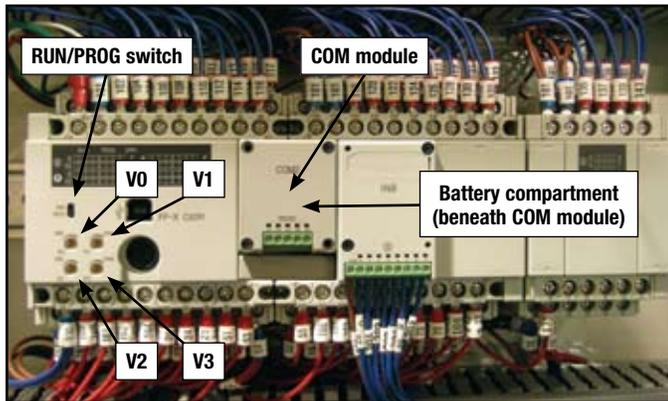
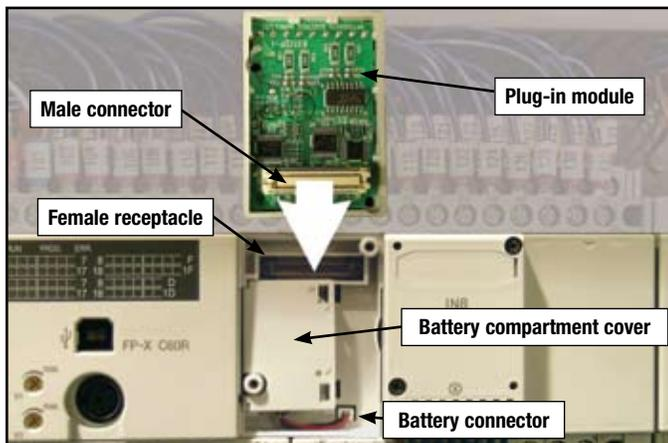
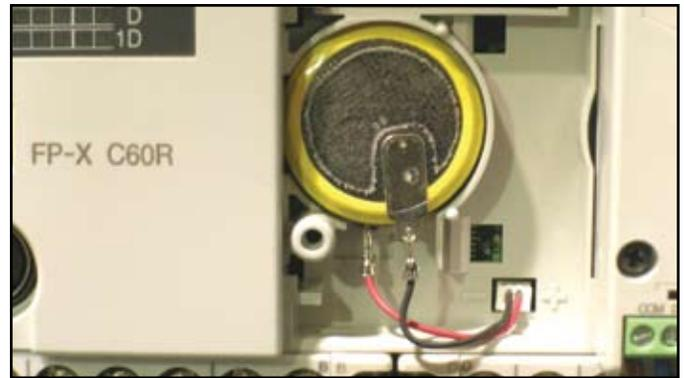

Figure 2. Key PLC components
Figure 3. Battery replacement and reprogramming the PLC.
Figure 4. Battery inserted and connected.
Adjustments to various timing functions are made by turning the control screws (*Figure 1, #V0–V3, and Figure 2, next page*) with a small Phillips screwdriver as follows:
The battery is located under the COM MODULE of the PLC (Figure 2). Remove the two screws holding the COM MODULE in place, then carefully pull out the module and set aside. Remove the snap-in cover over the battery compartment (Figure 3), then carefully disconnect the battery's plug-in connector and lift the battery out of its receptacle.
Once the battery has been installed and connected (Figure 4), snap the battery cover (Figure 3) back in place. Plug the COM MODULE back into its connector and replace the screws holding the module in place.
4. Insert the program module you received from A.W.T. in its place. The module contains a male connector that plugs into a female receptacle on the PLC (Figure 3).